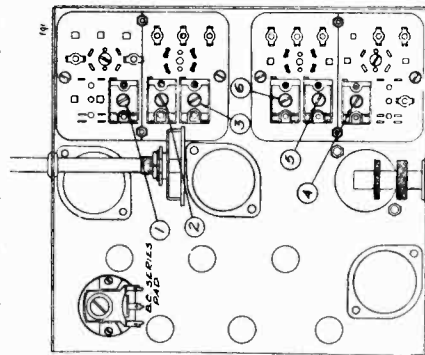

FIG. 3—BOTTOM VIEW SHOWING TRIMMERS
- (a) Set external oscillator to 1720 K.C. and adjust broadcast oscillator trimmer to resonance (Adjustment number 1; see bottom view of coil assembly, Fig. 3).
- (c) Re-set external oscillator to 600 K.C., and adjust broadcast series pad to resonance by rotating condenser to approximately 600 K.C., rocking it slowly to and fro until by adjusting series pad maximum output is attained. This adjustment is located on the bottom of the chassis directly under the variable gang condenser. (See bottom view of chassis, Fig. 3).